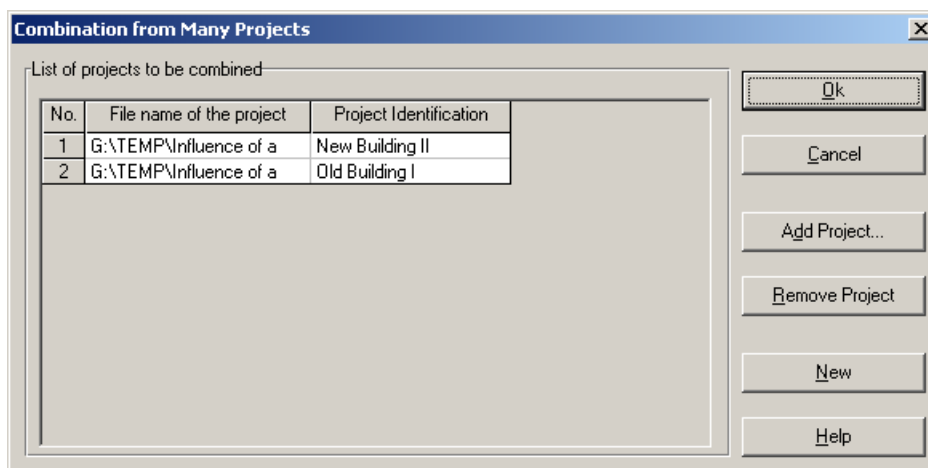

Figure 9-44 "Combination from many projects" list box
- Choose "Combination from many projects" command from "File" menu of *ELPLA-Section*. The following list box in Figure 9-44 appears. *ELPLA-Section* automatically considers the project "Old Building I" in the list of projects to be combined